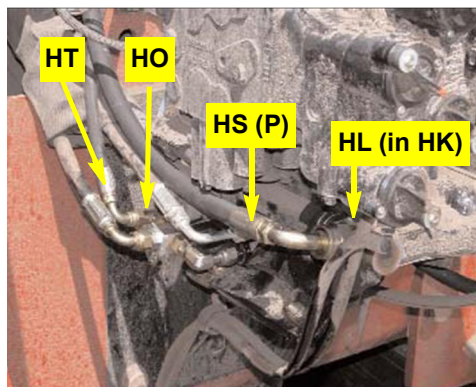

Figure 6b: Installed pressure and load sense hoses at the left side of the valve stack
- b. Route the pressure hose **HS** and load sense hose **HT** to the left side of the valve stack. Connect the pressure hose **HS** to the fitting **HL** in the run-tee **HK** installed in the bottom left (**P**) port of the valve stack at step 4c (Figure 6b).
Connect the load sense hose **HT** to fitting **HO** in the load sense shuttle (Figure 6b).